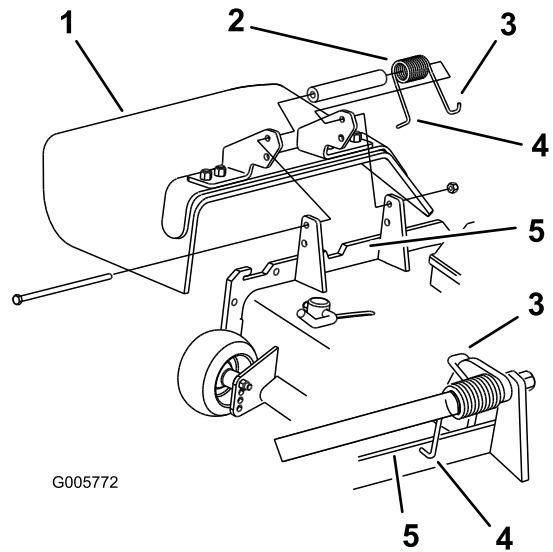

Figure 9
1. Make sure the **L** end of spring is installed behind the deck edge before installing the bolt as shown in Figure 9.
2. Place the **J** hook end of spring around grass deflector (Figure 9).